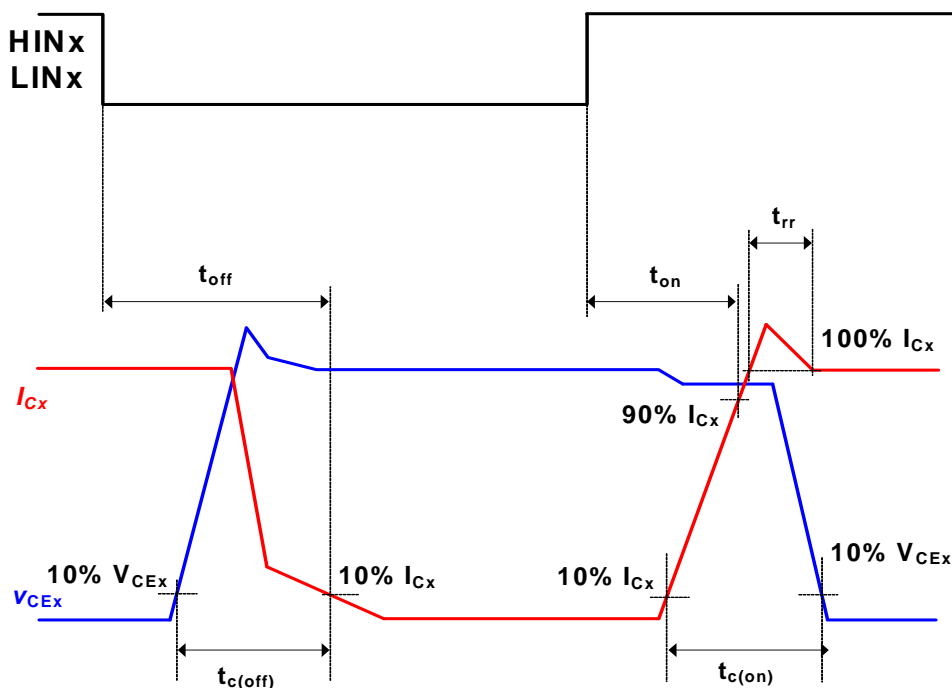

Figure 4. Switching Time
6. t_{ON} and t_{OFF} include the propagation delay of the internal drive IC. $t_{C(ON)}$ and $t_{C(OFF)}$ are the switching time of IGBT itself under the given gate driving condition internally. For the detailed information, please see Figure 4.